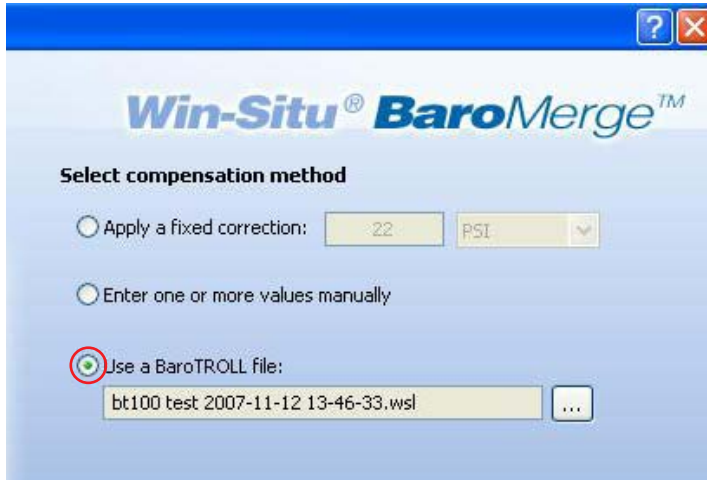

Fig 4. Baro Merge options with BaroTROLL file method selected
2. **In the main window, select “Use a BaroTROLL file” for the compensation method (Fig. 4).**
4. The main window returns to the screen with the BaroTROLL 100 log file displayed (Fig. 4). Click Next  to continue.